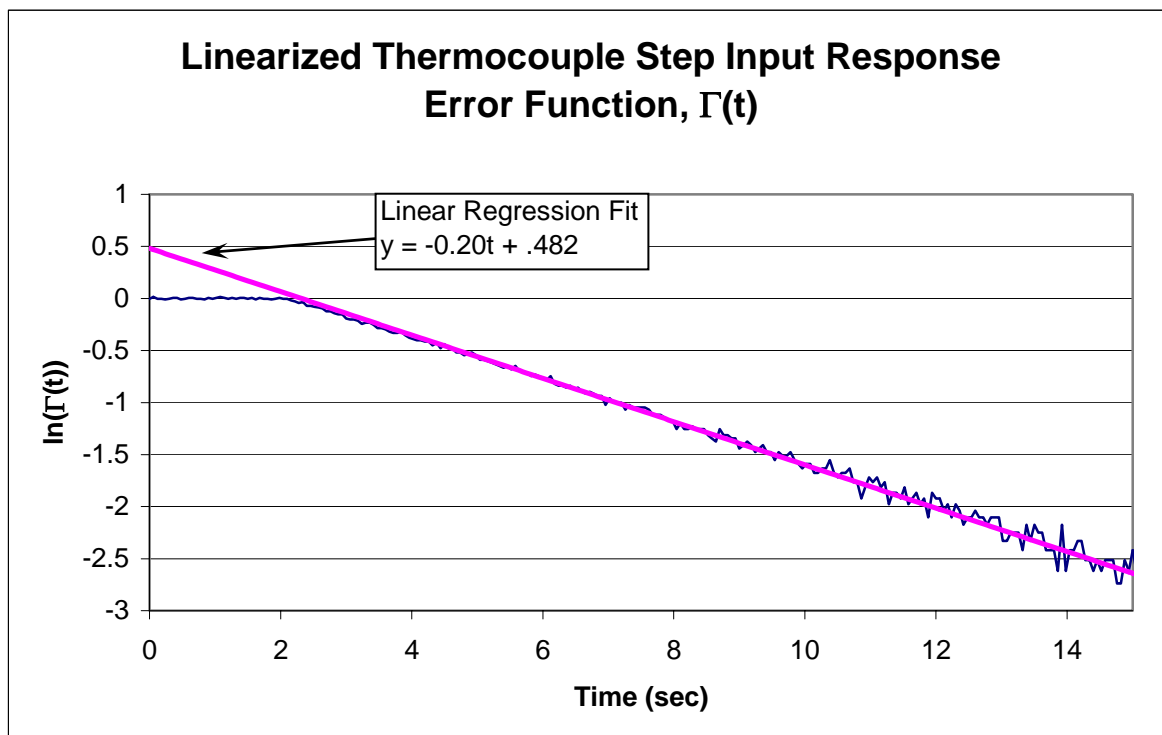

Figure 11. Linearized error function obtained from the dynamic calibration of a thermocouple.
44) The thermocouple time constant, τ , whose error function is plotted in Figure 11 is approximately: